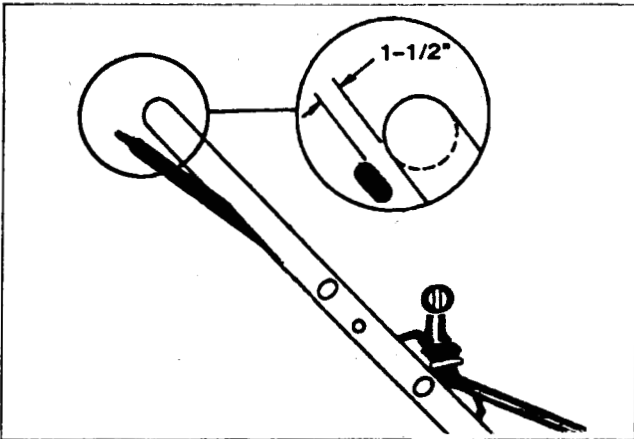

Figure 31
2. Lift the control bar until some resistance is felt. Insure that the distance between the handle and the control bar is 3.8 cm (1-1/2"). See Figure 31.